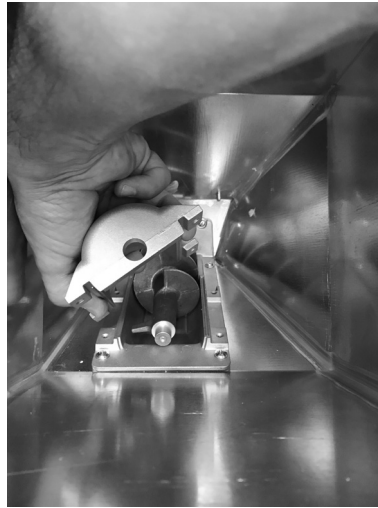

Fig. 37 - Coque removal
- Remove the coque (see **Fig. 37**).